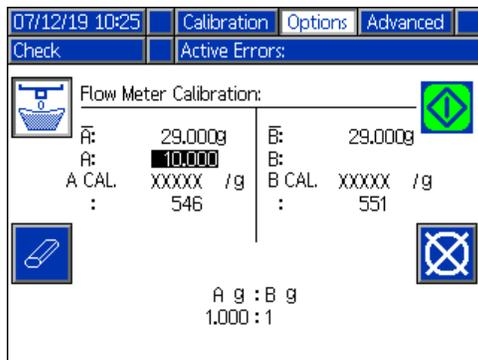

FIG. 35: Enter Net Weight
16. At the end of the dispense, weigh the A side material, then enter the net weight (in grams) in the field provided on the left side of the screen. See FIG. 35.
18. If you are calibrating a variable ratio machine and the ratio provided from the dispense is not the desired amount (displayed on the bottom of the screen, as shown in FIG. 35), change the mechanical ratio adjustment accordingly.